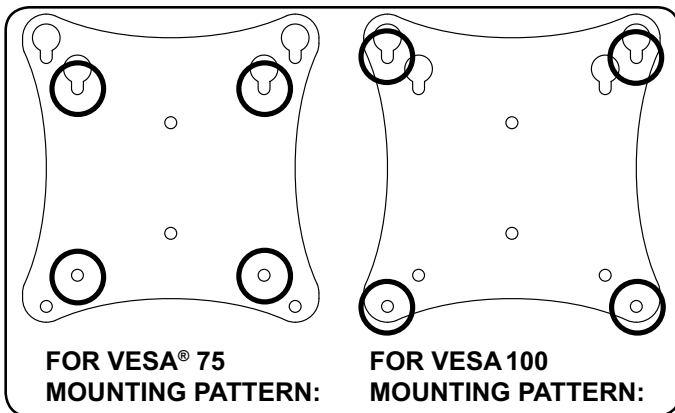

fig. 2.1
**2** Insert two M4 x 12 mm screws (**A**) into top two holes of screen, leaving approximately 1/4" of exposed thread. Hook screws onto keyslots of adapter plate as indicated in figures 2.1 and 2.2.